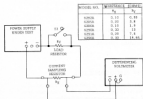

Figure 5-4. Output Current Test Setup
- Connect test setup shown in Figure 5-4, leaving switch S1 open.
a. Connect test setup shown in Figure 5-4.
a. Utilize test setup shown in Figure 5-4 leaving switch  $S_1$  open throughout test.
a. Use test setup shown in Figure 5-4, except connect AC voltmeter across sampling resistor instead of differential voltmeter.